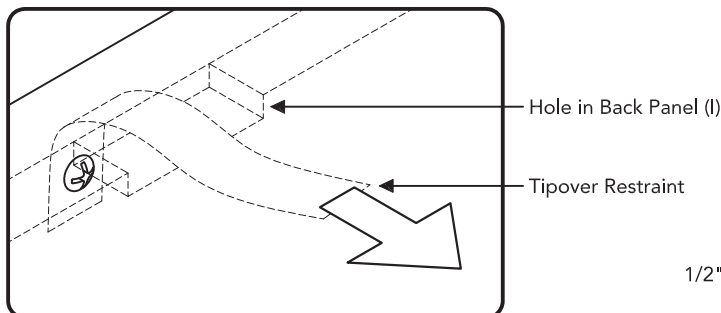

Figure 6
Move unit back into place and insert Tipover Restraint into unit through hole in Back Panel (I). (See Figure 6)